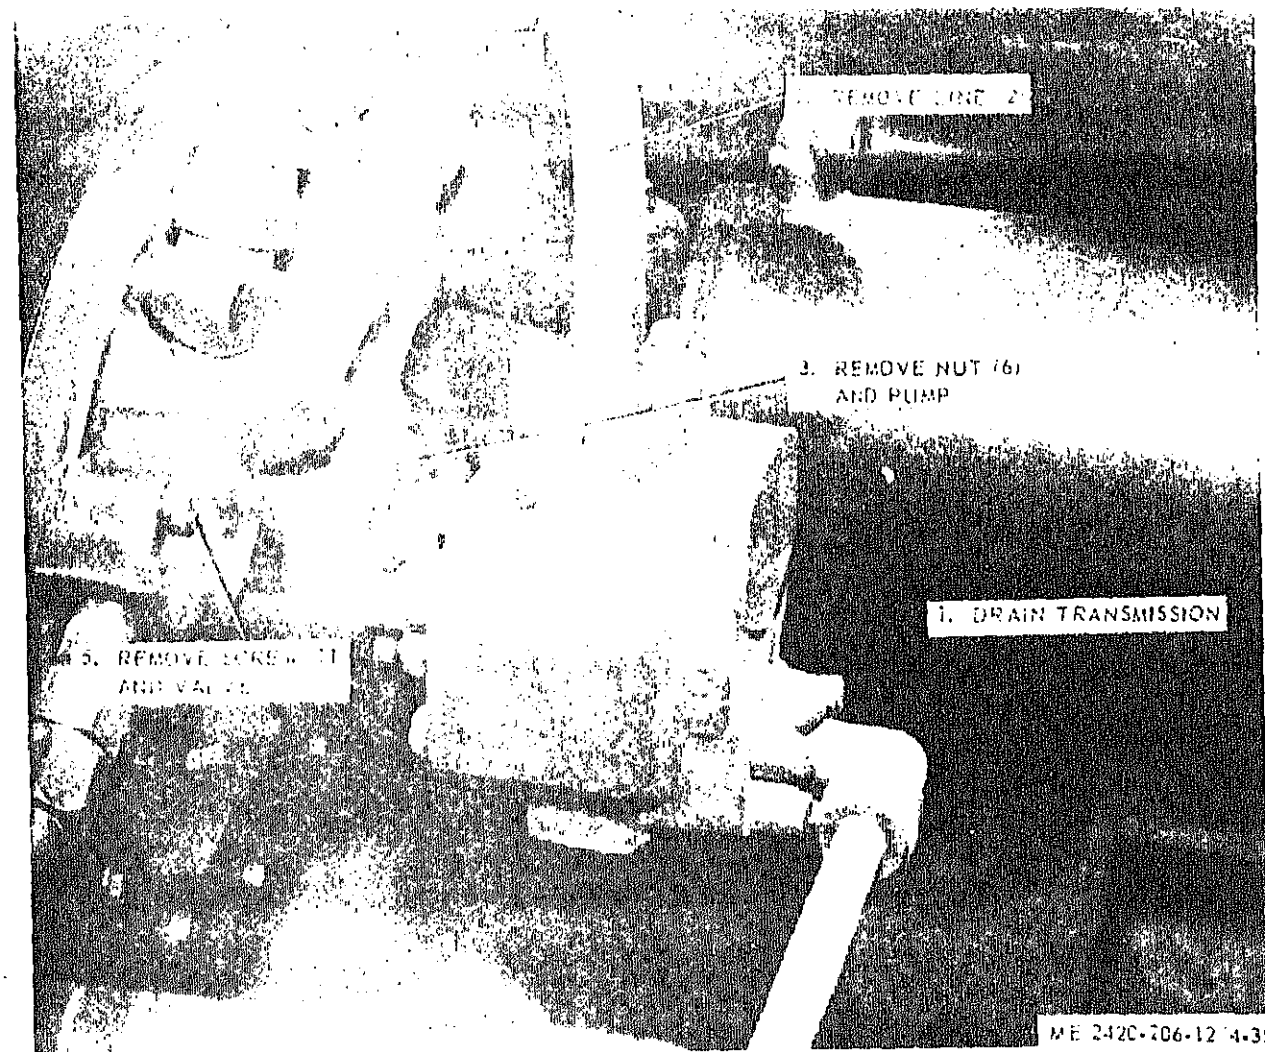

Figure 4-35. Push start pump and valve, removal and installation.
- (1) Install hydraulic filter base in position of removal, *a* above.
- (2) Install elements (para 3-7).
a. *Removal.* Remove pump and valve as illustrated in figure 4-35.
- (1) Clean exterior and dry thoroughly.
- (2) Inspect for cracks, breaks, and other dam-
c. *Installation.* Install valve and pump as illustrated in figure 4-35. Replace push start pump gasket.